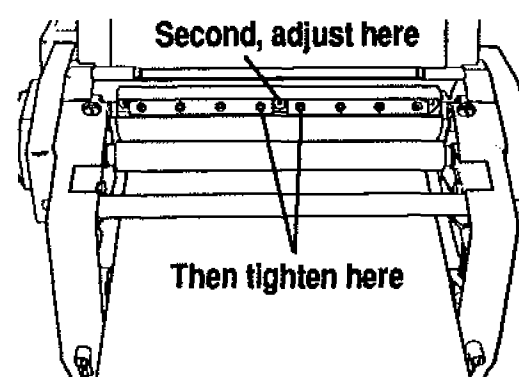

Fig. 70
11. Adjust the height at the middle of the knife. Make the final height adjustment in the middle of the knife. When you have completed this adjustment, tighten the extreme left wedge locking screw in the right wedge and extreme right wedge locking screw in the left wedge, as in Fig. 70.